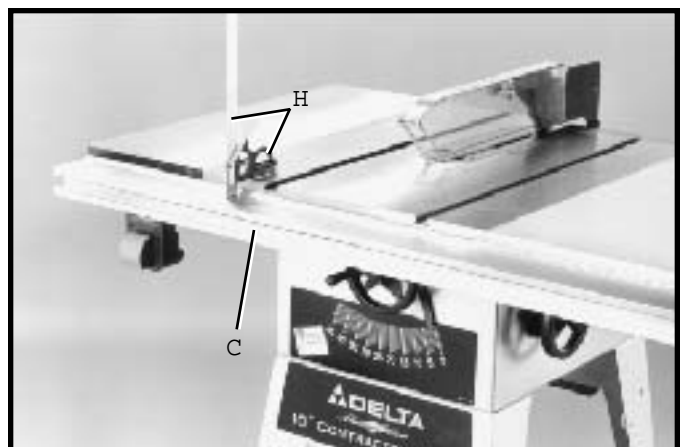

Fig. 59
6. Adjust the guide rail (C) Fig. 59, parallel with the saw table surface by placing a square (H) on the saw table at both the left and right front ends of the table, with the rule of the square against the flat surface on top of the guide rail. The guide rail (C) Fig. 59, can be adjusted up or down slightly at either end. After you are certain the guide rail is parallel with the table surface, firmly tighten the two hex nuts that fasten the guide rail to the table.